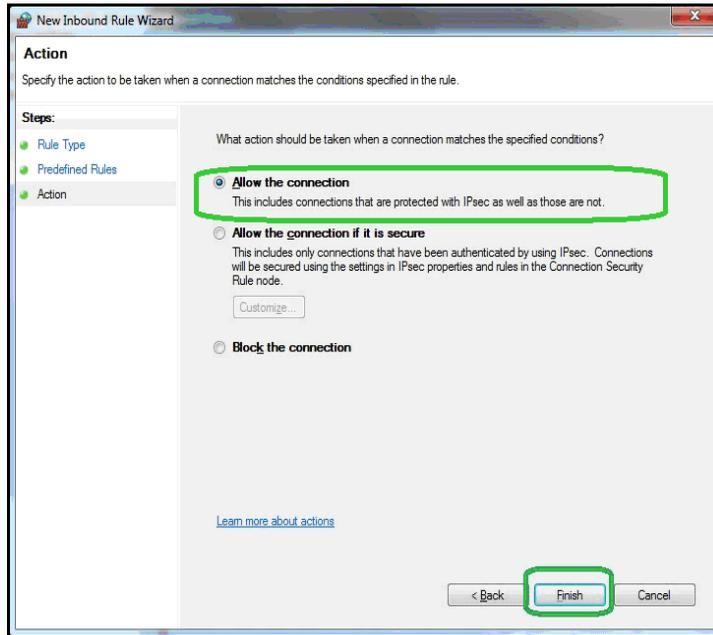

FIGURE 2-44 Windows® Firewall - New Inbound Rule Wizard - Allow the Connection
Step 22 On the **Action** page, select **Allow the connection**, as shown in FIGURE 2-44.